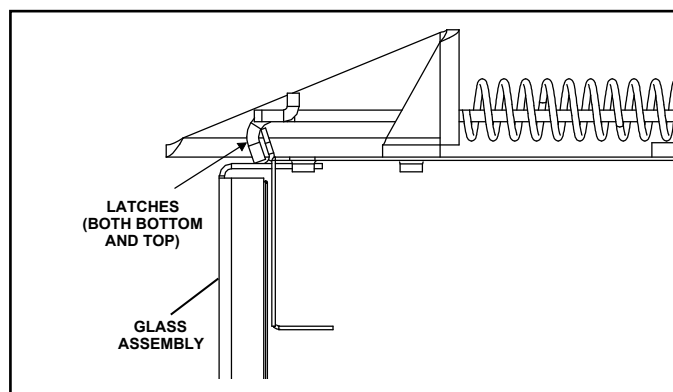

Figure 4.1 Glass Assembly
- Pull the four glass assembly latches out of the groove on the glass frame. Remove glass door from the appliance. See Figure 4.1.